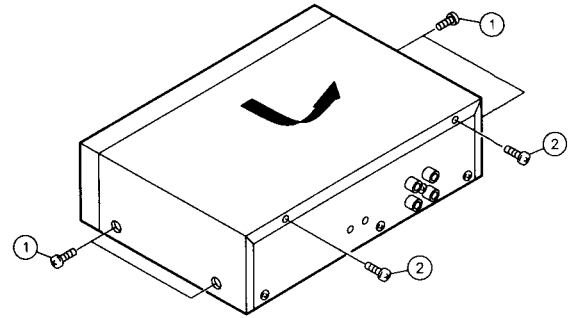

Fig. 2 - 1
#### ◆ Top cover (Fig. 2 - 1)
1. Remove four screws ① retaining the top cover from both side.
2. Remove two screws ② retaining the top cover from the back side.
3. To remove the top cover, slide in direction of arrow and lift away (refer to Fig. 2 - 1).
#### ◆ Front panel assembly (Fig. 2 - 2, 2 - 3, 2 - 4)